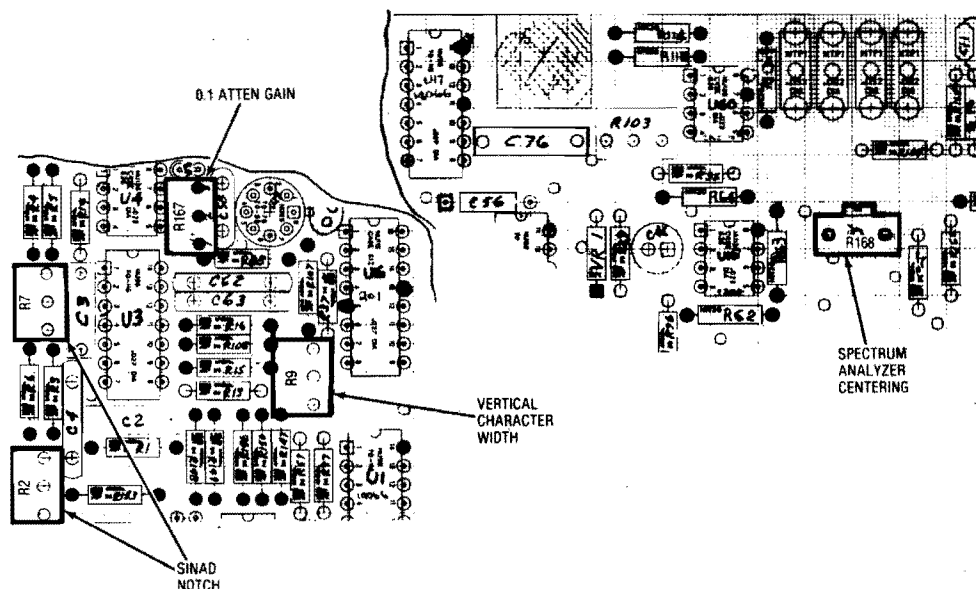

Figure 5-20. Scope/DVM Control Char Sweep and Sinad Alignment Points
4. Adjust the Horizontal Character Sweep Width Potentiometer on the Scope/DVM Control Board (Figure 5-20) so that the right-hand edge of the CRT character display is approximately 4.2 graticule divisions to the right of the graticule center line.
5. Adjust the Vertical Character Sweep Width Potentiometer on the Scope/DVM Control Board (Figure 5-20) so that the bottom edge of the CRT display is approximately 3.3 graticule divisions below the graticule center line.
5. Alternately adjust the two SINAD Notch potentiometers on the Scope/DVM Control Board (Figure 5-20) for a maximum SINAD reading on the CRT display. A reading greater than 30 dB should be obtained.